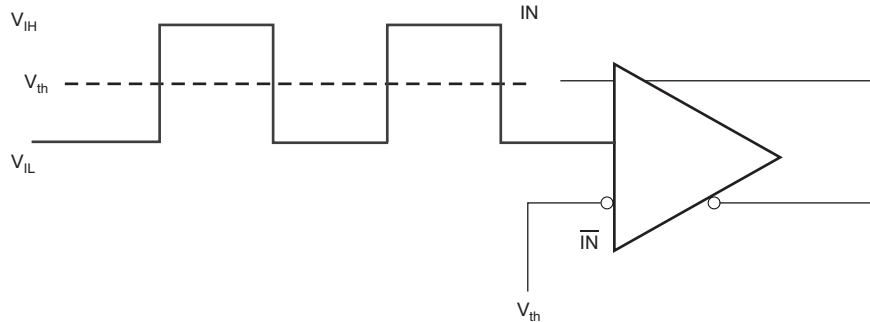
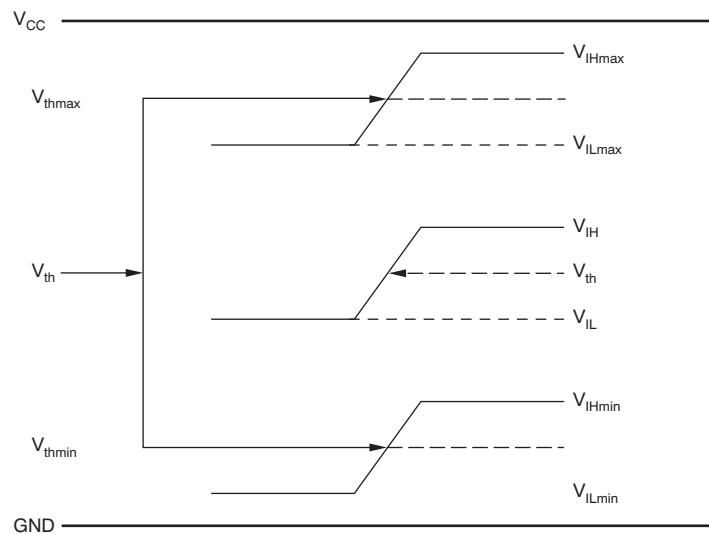
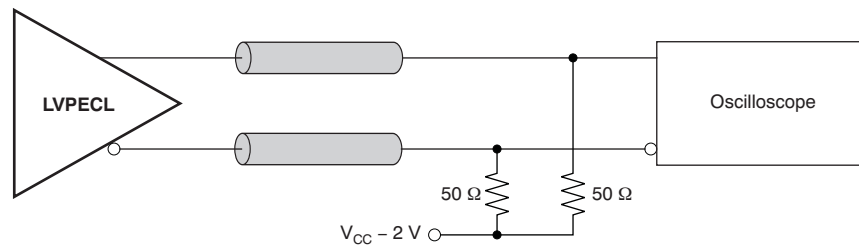
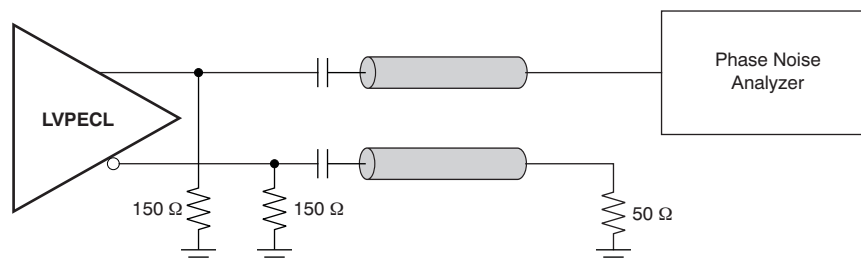

Figure 3. DC-Coupled LVCMOS Input During Device Test
Figure 4. V_{th} Variation Over LVCMOS Levels
Figure 8. LVPECL Output DC Configuration During Device Test
Figure 9. LVPECL Output AC Configuration During Device Test
(1) Figure 3 and Figure 4 show DC test setup.
(1) Figure 8 and Figure 9 show DC and AC test setup.
(2) Internally generated bias voltage (V_{AC_REF}) is for 3.3-V operation only. It is recommended to apply externally generated bias voltage for $V_{CC} < 3.0\text{ V}$.
This section describes the function of each block for the CDCLVP1102. Figure 3 through Figure 9 illustrate how the device should be setup for a variety of test configurations.